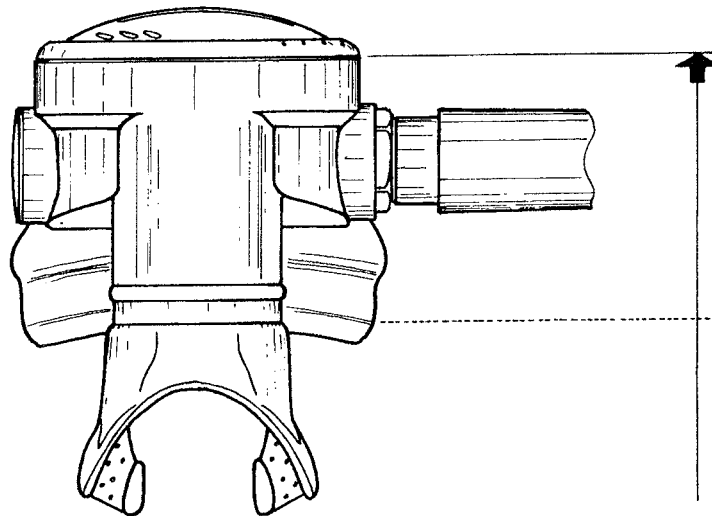

FIG. 8
- b. When the water level, measured on the mouthpiece fitting with reference to the point indicated in the diagram (Fig. 8), falls between the "cracking" values indicated in Table A, the air must start to flow. (see Tab.A)
SECOND STAGE MODEL FURY	POINT OF REFERENCE WHERE STARTS THE 2 ND STAGE CASE (32) (Fig. 8)